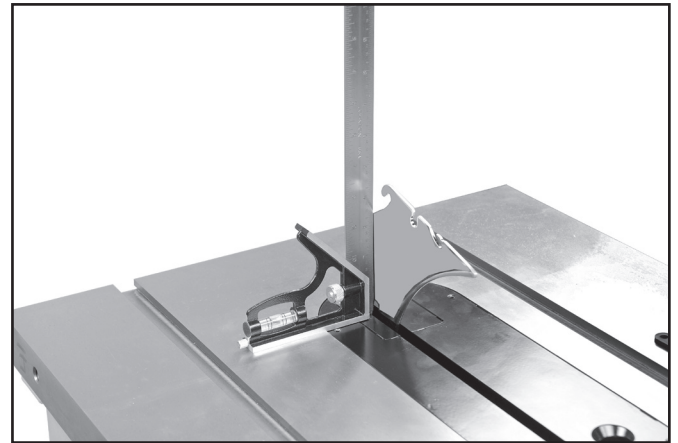

FIG. 34
8. Place a square flat against the riving knife and verify riving knife is vertical and in-line with the blade. (Fig. 34)